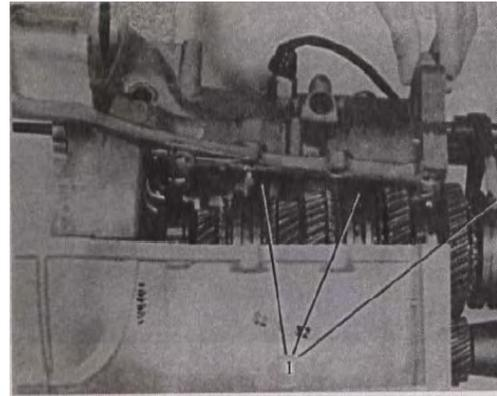

Fig 10-90
(6) Install upper case to lower case by matching 3 shift forks with 3 grooves in synchronizer sleeve on main shaft respectively. (FIG.10-90)